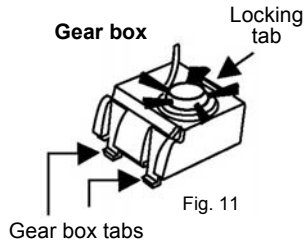

Fig. 11
4. Push in on the locking tab of the gear box and lift gear box to remove. (Fig. 11 & 12)
2. Push in on the locking tab of the gear box and lift gear box to remove. (Fig. 11 & 12).